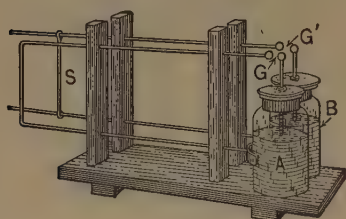

FIG. 396. — Electric resonance.
**Electrical resonance.** We can demonstrate electrical resonance by means of two similar condensers, one of which has a varying circuit. One condenser, such as a Leyden jar, has joined to the outside coating a metal conductor whose other end is separated by a small gap from the knob *G* which joins the inside coating. This we shall call the *wave-producing* equipment: *A* in Fig. 396. The Leyden jar, *A*, may be given an electric charge by joining the two surfaces to the two terminals of
a static machine or to the secondary coil of an induction coil. Another condenser of the same capacity (*B*) is fitted with a metal conductor and has a spark gap at the knob (*G'*). This we shall call the *receiving* equipment: *B* in Fig. 396. The metal circuit is longer than that in the wave-producing equipment but has a cross sliding wire so arranged